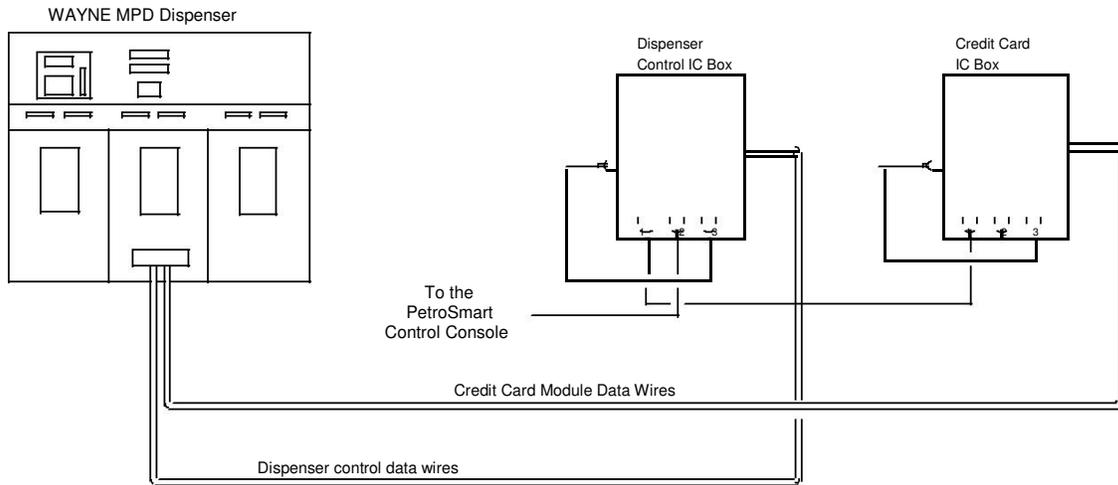

Fig. 1, PetroSmart Data Wire Diagram
4. **Connecting the Console to the Dispenser IC BOX** - Connect the data cable from the “PUMP CONTROL” connector on the PETROSMART EZ console to the connector marked (#3) on the dispenser interconnect box. Refer to Fig. 1.
5. **Connecting the Dispenser IC Box to the CAT CREDIT CARD MODULE IC Box** - Connect the data cable from the(#1) connector on the Dispenser IC Box to the (#1) connector on the CAT CREDIT CARD MODULE IC box. Refer to Fig. 1.